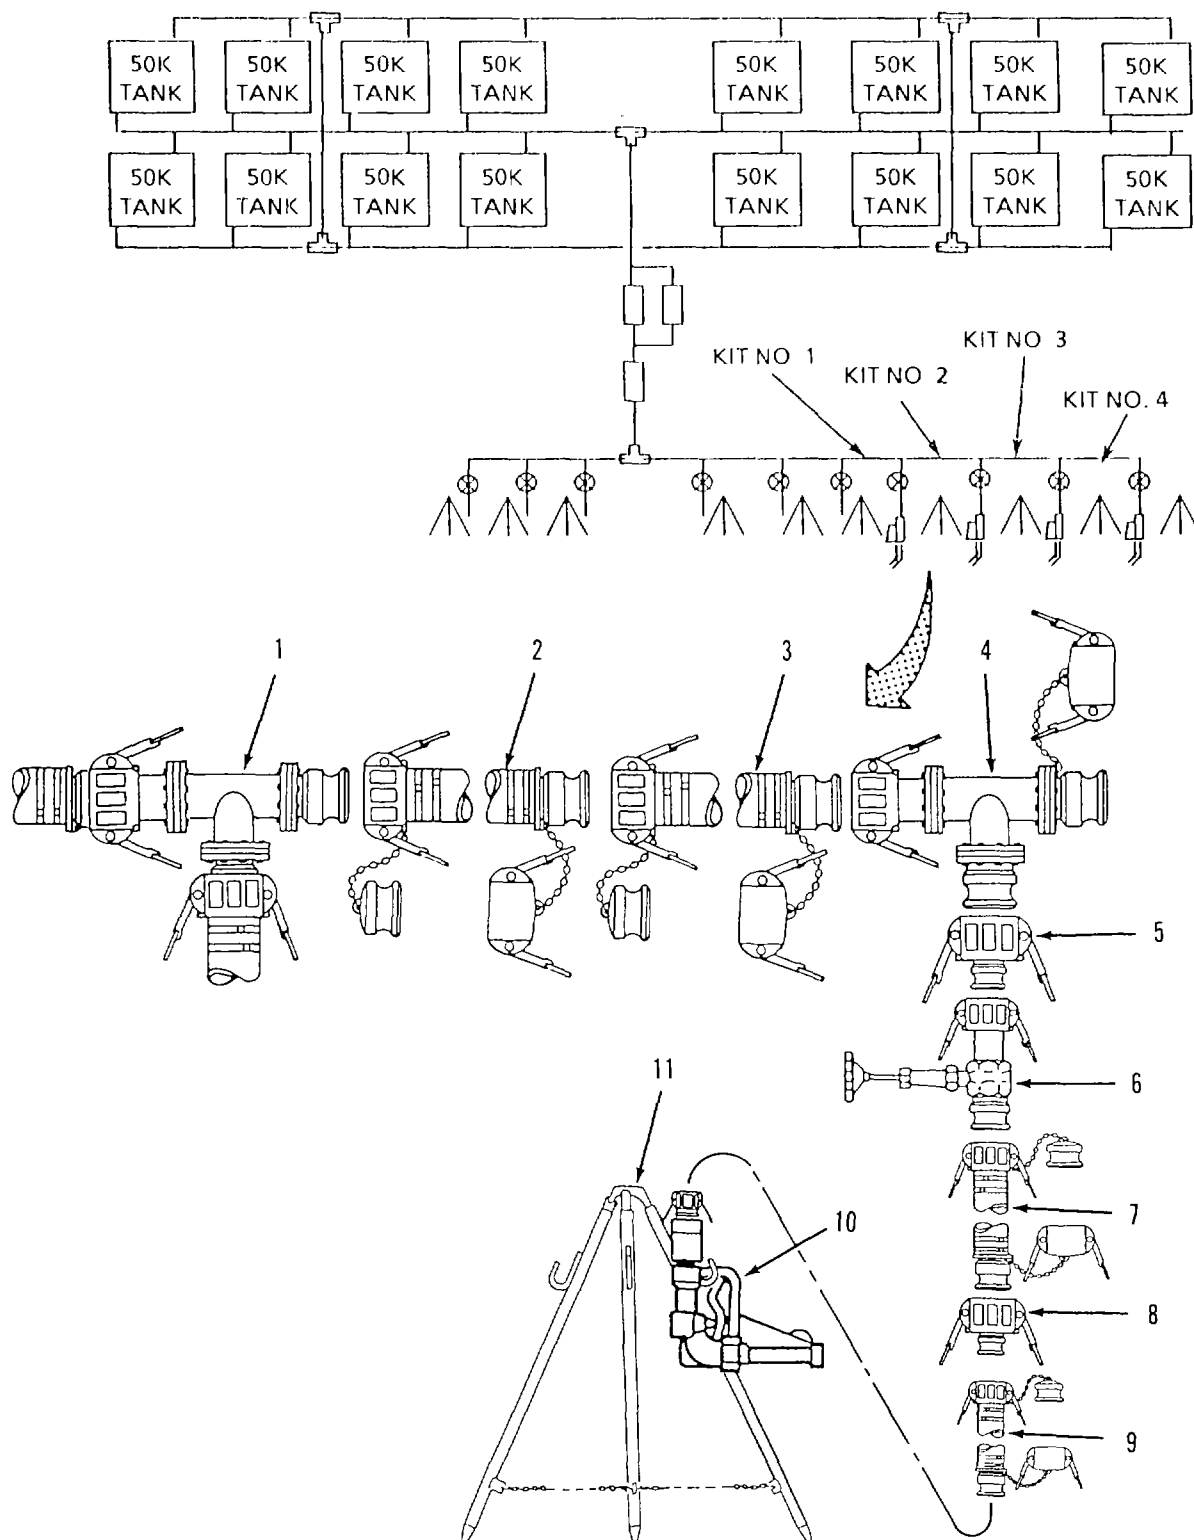

Figure 2-20. Hose Nozzle Connection Kit.
- m. Assemble hose Nozzle Connection Kits. Refer to figure 2-20.